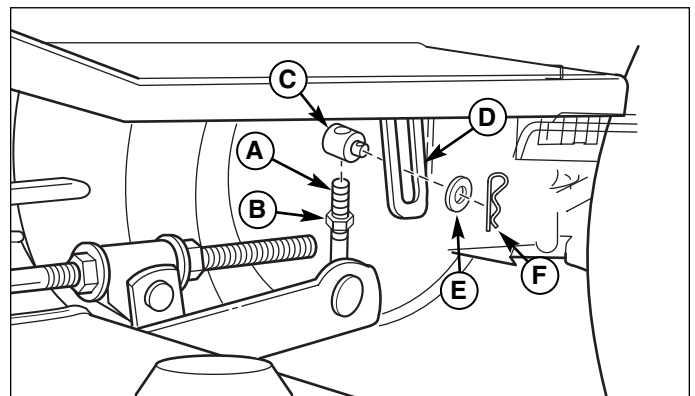

Figure 49. Cutting Height Adjustment
1. Loosen jam nut (B, Figure 49).
2. Remove the hair pin (F) and washer (E) from trunnion (C).
3. Remove the trunnion (C), j-hook (A) and jam nut (B) from tractor lift arm (D).
4. Turn trunnion (C) up or down to adjust height.
5. Place trunnion (C), j-hook (A) and jam nut (B) in tractor lift arm (D). Install washer (E) and hair pin (F). Tighten jam nut (B).